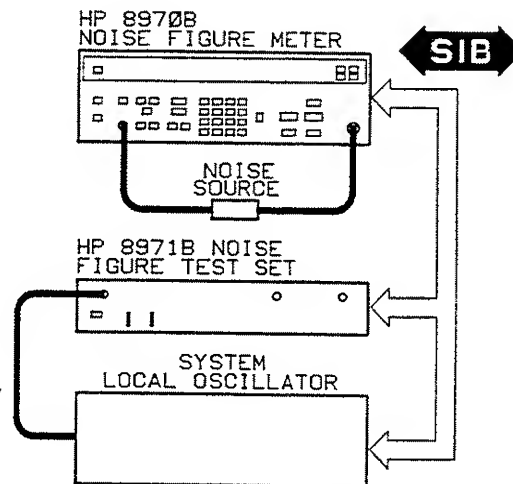

Figure 4-14. Noise Figure and Gain Calibration Test Setup SSB2/SSB3
1. Connect equipment as shown in Figure 4-14.